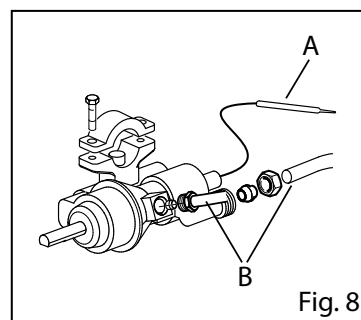

Fig. 8
- Remove the bulb from the support (Fig. 8/A)
- Unscrew the gas inlet and outlet connections (e.g. Fig. 8/B)